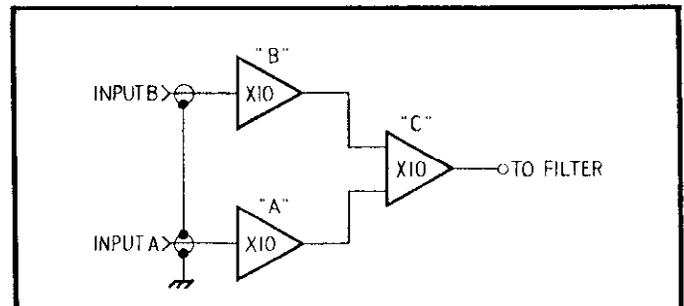

FIGURE 6. Differential Mode.
c. Differential Mode (A-B INPUT). In this mode the input amplifiers are connected as separate amplifiers which are summed differentially as shown in Figure 6. The output is a function of A-B times the gain of the amplifier.